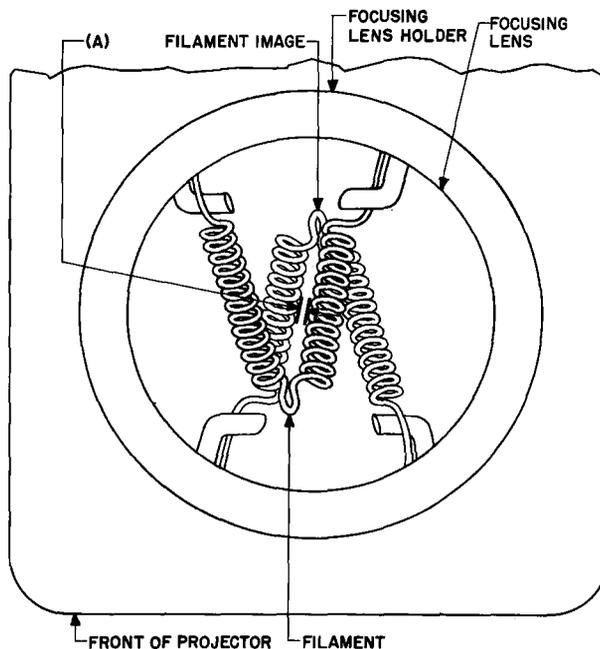

Fig. 3 — Alignment of Filament and Image of Filament in Reflector As Viewed Through Focusing Lens
2.10 Alignment of Filament and Filament Image: Fig. 3(A) — When viewed through the projection lens, the separation between the adjacent parallel legs of the filament and filament image shall be approximately one-third the width of the leg of the filament.